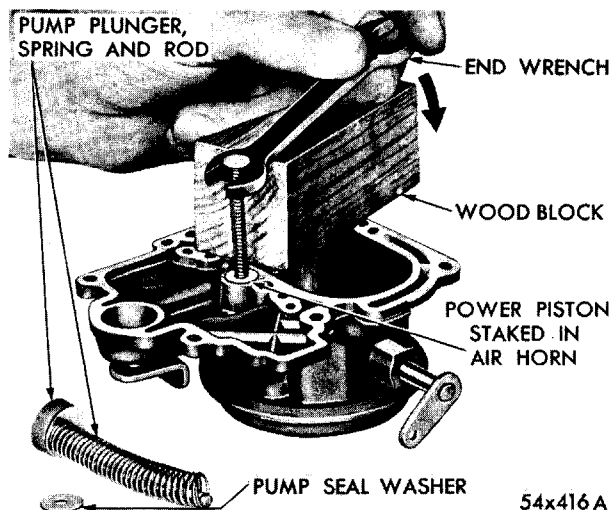

Fig. 4—Removing Vacuum Piston
(6) Remove the vacuum power piston from the air horn, using an open end wrench and a wood block, as shown in Figure 4. (Exert sufficient pressure on end of